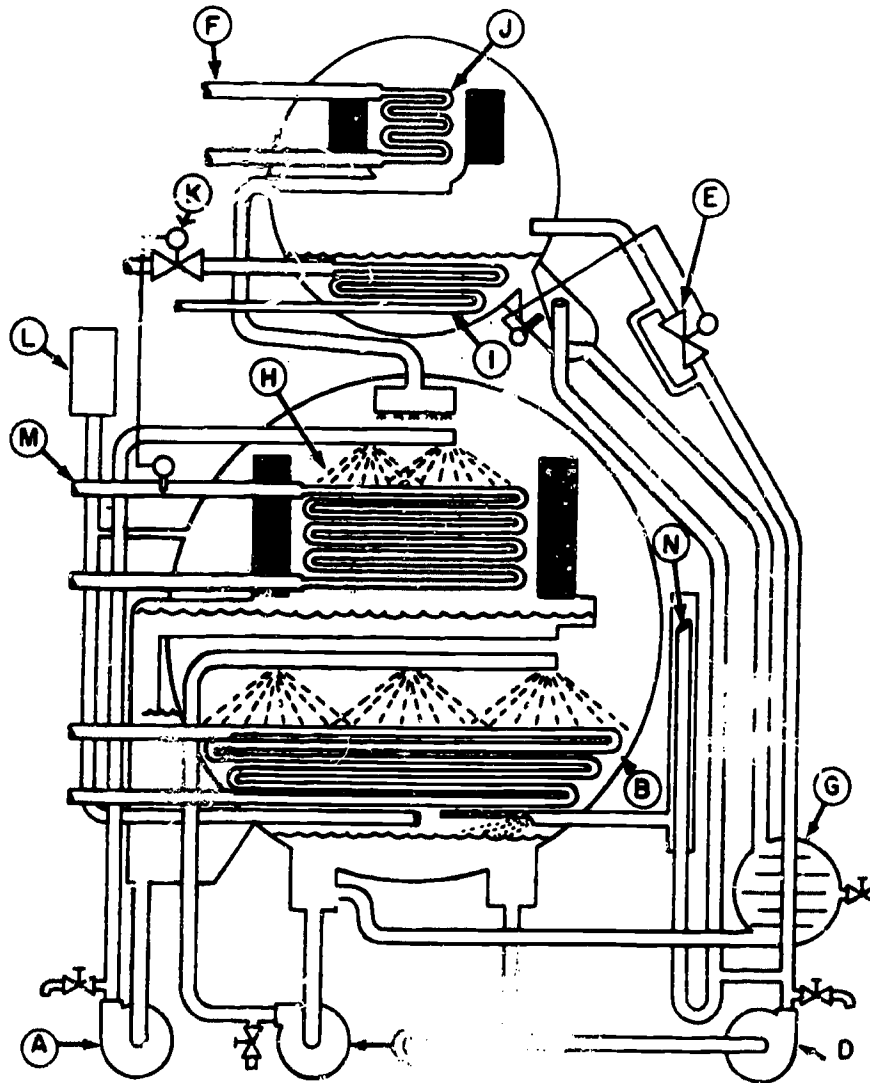

Figure 4. Lithium Bromide Absorption System
- Identify the lettered components in figure 4 and write their names after the corresponding letters in the space provided.
2. Refer to figure 4.